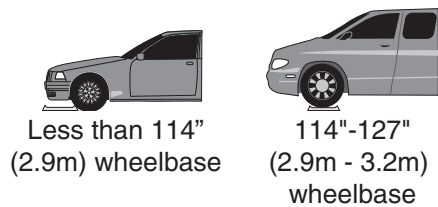

Fig. 6
- B. Drive over superstructure and spot vehicle with left front wheel in proper spotting dish position as shown in Fig. 6.